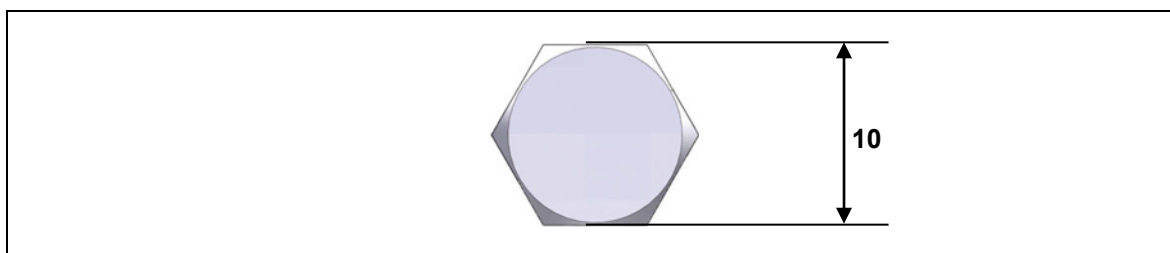

Figure 7 Diagram of the hexagonal shaft (dimensions in mm)
- 3 Put a shaft (e.g. hex shaft: refer to Figure 7) through the corresponding hole in the end product and into the drive.